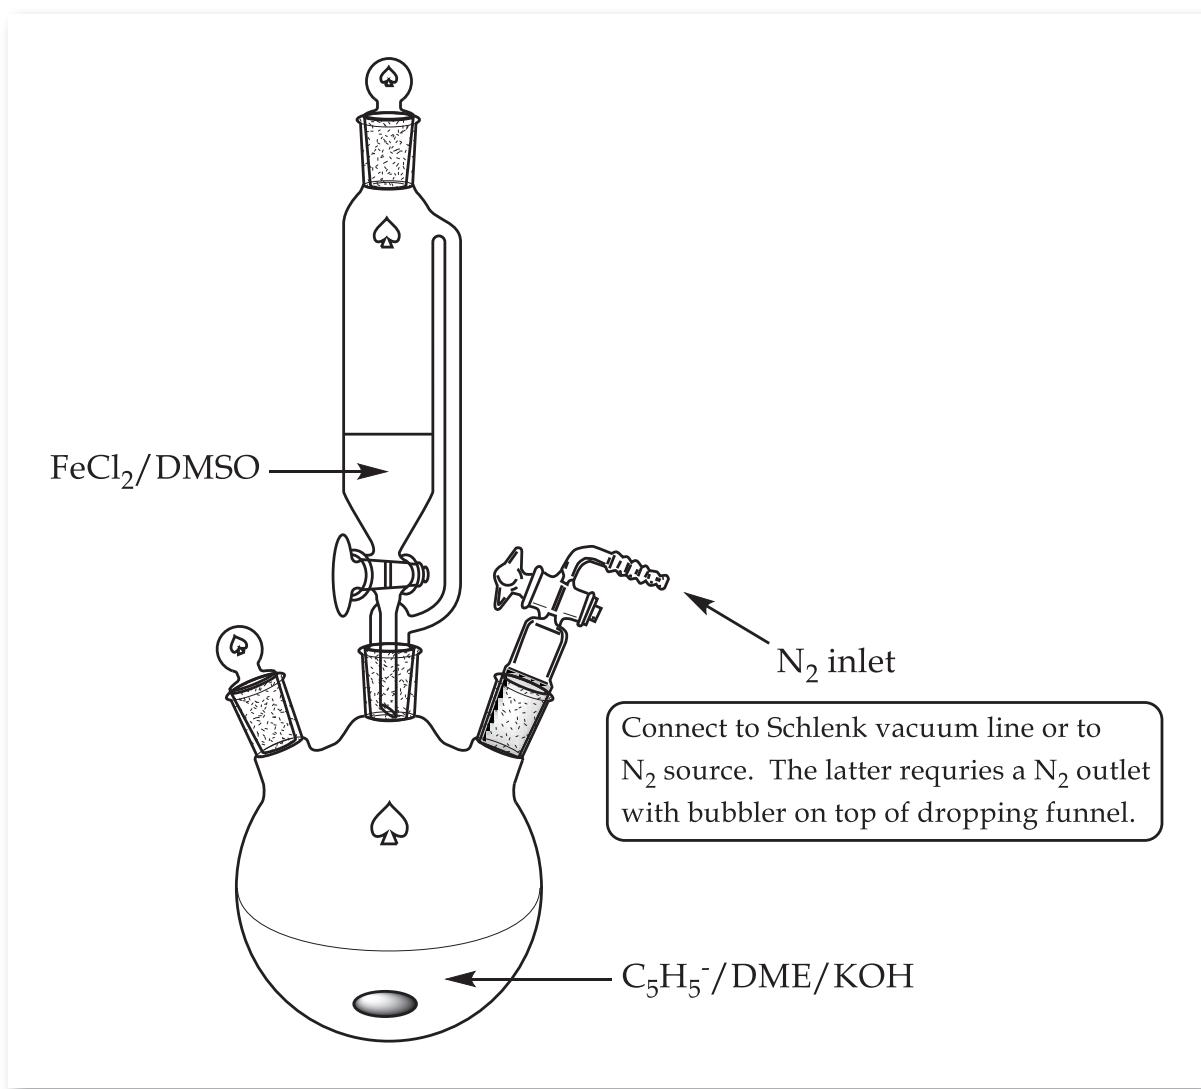

Figure 2. Experimental setup for ferrocene synthesis.
Charge a 250 mL 3-neck round bottom flask equipped with a dropping funnel, magnetic stirrer and nitrogen inlet, with DME (50 mL) and 4.25 mL of freshly distilled cyclopentadiene (Figure 2). Stir the solution and flush with nitrogen.^{4,5} Take an aliquot (1 mL) for 1H NMR. Add finely ground KOH (20 g) and stir the mixture vigorously for 15 min to form a coloured mixture, which includes the cyclopentadienyl anion. Take an aliquot (1 mL) for 1H NMR. Prepare a solution of finely powdered $FeCl_2 \cdot 4H_2O$ (5 g) in 20 mL of DMSO under nitrogen and transfer the solution into the dropping funnel. Add the iron(II) chloride solution slowly over a period of 30 min with efficient stirring. Take an aliquot (1 mL) for 1H NMR after 2/3 of the $FeCl_2$ /DMSO solution has been added, then another aliquot (1 mL) at the end of addition. Continue stirring the reaction mixture for a further 15 min then pour the dark slurry into a beaker containing crushed ice (80 g) and hydrochloric acid (75 mL, 6 M). Stir the mixture thoroughly to dissolve and neutralise any remaining KOH. Filter the precipitate and wash with water. Collect the crude orange ferrocene and dry in the air. Purify by sublimation to obtain orange crystalline material and record your yield (see Figure 3).²